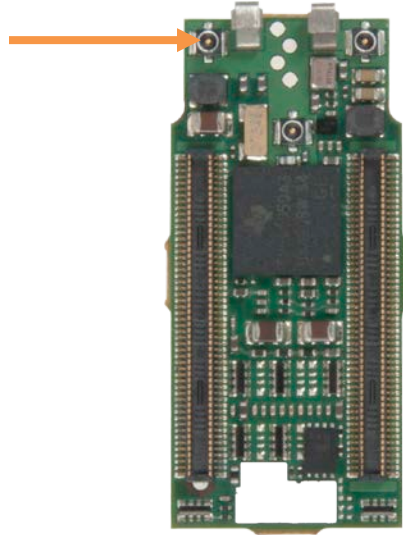

Figure 8.3: 5 GHz Antenna Connector on DM3730 Torpedo + Wireless SOM
- For 802.11a/n Ethernet support, connect one antenna to the 5 GHz antenna connector at reference designator J6. See Figure 8.3 for the antenna connector location on the bottom of the DM3730 Torpedo + Wireless SOM.